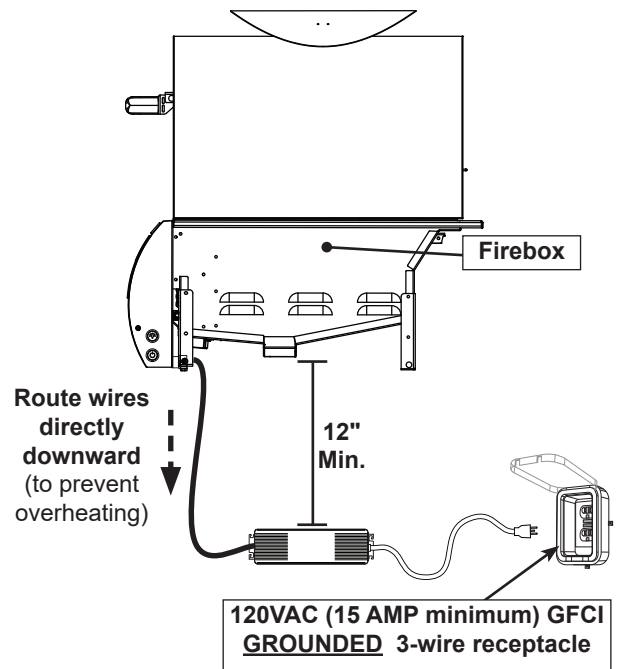

Fig. 28-2 Mount power supply
1. Ensure the wire harness extension is routed directly downward. This will prevent overheating. **DO NOT** route the harness below the unit firebox. See Fig. 28-2.
- located at least **12"** below the bottom of the unit (see Fig. 28-2)
3. Connect the power cord to a **120VAC (15 AMP minimum) GFCI GROUNDED three-wire receptacle** (see Fig. 28-2). The GFCI receptacle must be a WEATHER-PROOF IN-USE COVERED RECEPTACLE.